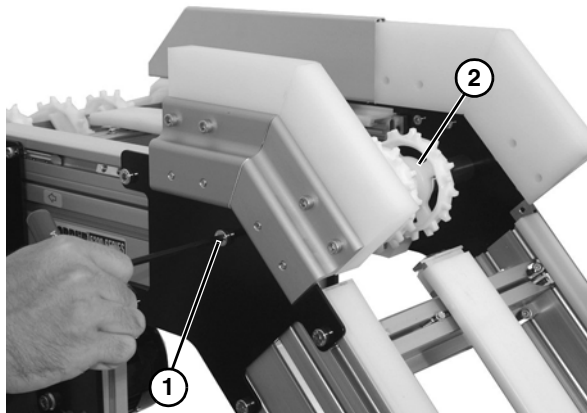

Figure 65
1. Remove socket head cap screw (**Figure 65, item 1**), on each side of upper knuckle assembly, and remove shaft and sprocket assembly (**Figure 65, item 2**).